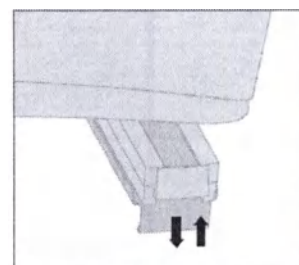

Figure 7. Pulling down battery compartment
1. Pull down on the battery compartment handle to gain access to the battery (see Figure 7).
1. Ensure that the battery compartment in its lowered position (see figure 7).